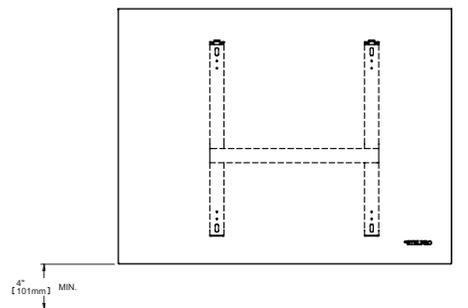

FIGURE 6
4. The unit must be mounted at least 4 inches (10.2 cm) from the floor. (FIGURE 6)